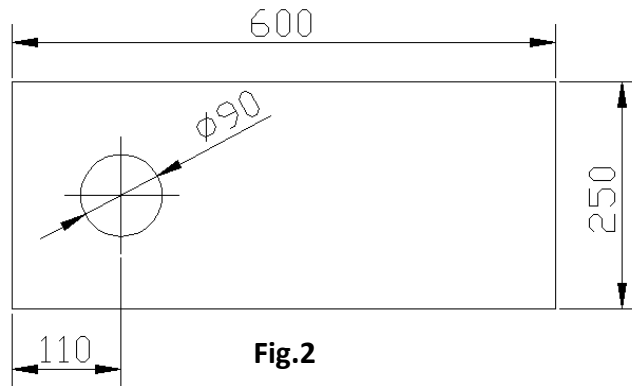

Fig.2
3.2.3 Place the instrument on a stable working table and adjust it to the horizontal. Open a hole at the appropriate position on working table (see Fig.2) in order to make the lifting screw work.